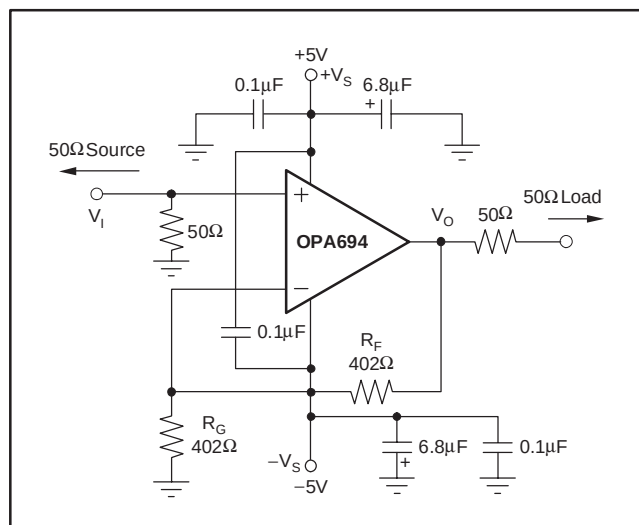
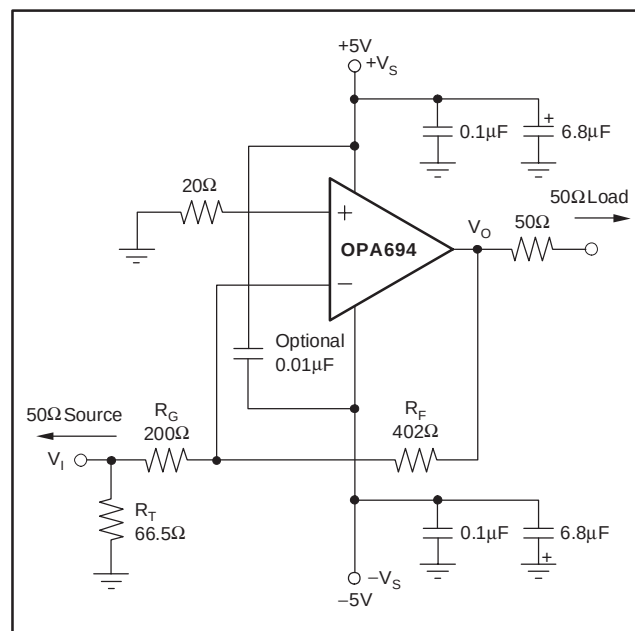
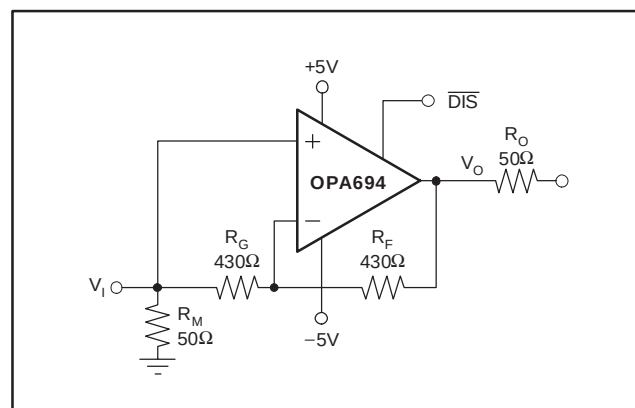
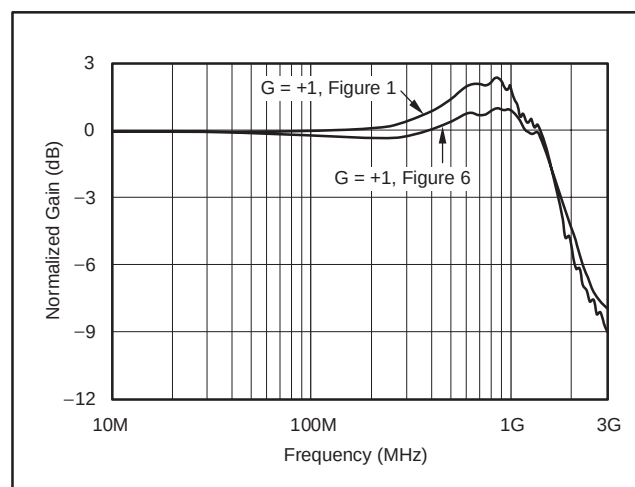

Figure 1. DC-Coupled, G = +2, Bipolar-Supply Specification and Test Circuit
Figure 2. DC-Coupled, G = -2 V/V, Bipolar-Supply Specification and Test Circuit
Figure 6. IF Amplifier Driving SAW Filter
Figure 7. IF Amplifier Driving SAW Filter
Figure 1 shows the DC-coupled, gain of +2, dual power-supply circuit configuration used as the basis of the ± 5 V Electrical Characteristic tables and Typical Characteristic curves. For test purposes, the input impedance is set to 50 Ω with a resistor to ground and the output impedance is set to 50 Ω with a series output resistor. Voltage swings reported in the Electrical Characteristics are taken directly at the input and output pins, while load powers (dBm) are defined at a matched 50 Ω load. For the circuit of Figure 1, the total effective load will be 100 Ω || 804 Ω = 89 Ω . One optional component is included in Figure 1. In addition to the usual power-supply decoupling capacitors to ground, a 0.1 μ F capacitor is included between the two power-supply pins. In practical PC board layouts, this optional added capacitor will typically improve the 2nd-harmonic distortion performance by 3dB to 6dB.
Figure 2 shows the DC-coupled, gain of -2 V/V, dual power-supply circuit used as the basis of the inverting Typical Characteristic curves. Inverting operation offers several performance benefits. Since there is no common-mode signal across the input stage, the slew rate for inverting operation is higher and the distortion performance is slightly improved. An additional input resistor, R_T , is included in Figure 2 to set the input impedance equal to 50 Ω . The parallel combination of R_T and R_G sets the input impedance. Both the noninverting and inverting applications of Figure 1 and Figure 2 will benefit from optimizing the feedback resistor (R_F) value for bandwidth (see the discussion in *Setting Resistor Values to Optimize Bandwidth*). The typical design sequence is to select the R_F value for best bandwidth, set R_G for the gain, then set R_T for the desired input impedance. As the gain increases for the inverting configuration, a point will be reached where R_G will equal 50 Ω , where R_T is removed and the input match is set by R_G only. With R_G fixed to achieve an input match to 50 Ω , R_F is simply increased, to increase gain. This will, however, quickly reduce the achievable bandwidth, as shown by the inverting gain of -10 frequency response in the Typical Characteristic curves. For gains > 10V/V (14dB at the matched load), noninverting operation is recommended to maintain broader bandwidth.
The unity gain buffer configuration of Figure 1 shows a peaking in the frequency response exceeding 2dB. This gives the slight amount of overshoot and ringing apparent in the gain of $+1V/V$ pulse response curves. A similar circuit that holds a flatter frequency response, giving improved pulse fidelity, is shown in Figure 6.
This circuit removes the peaking by bootstrapping out any parasitic effects on R_G . The input impedance is still set by R_M as the apparent impedance looking into R_G is very high. R_M may be increased to show a higher input impedance, but larger values will start to impact DC output offset voltage. This circuit creates an additional input offset voltage as the difference in the two input bias currents times the impedance to ground at V_I . Figure 7 shows a comparison of small-signal frequency response for the unity gain buffer of Figure 1 compared to the improved approach shown in Figure 6. Either approach gives a low-power unity-gain buffer with $> 1.56\text{GHz}$ bandwidth.
The OPA694 provides good distortion performance into a 100Ω load on $\pm 5\text{V}$ supplies. Generally, until the fundamental signal reaches very high frequency or power levels, the 2nd-harmonic will dominate the distortion with a negligible 3rd-harmonic component. Focusing then on the 2nd-harmonic, increasing the load impedance improves distortion directly. Remember that the total load includes the feedback network—in the noninverting configuration (see Figure 1), this is the sum of $R_F + R_G$, while in the inverting configuration it is just R_F . Also, providing an additional supply decoupling capacitor ($0.1\mu\text{F}$) between the supply pins (for bipolar operation) improves the 2nd-order distortion slightly (3dB to 6dB).
Evaluating these two equations for the OPA694 circuit and component values (see Figure 1) gives a total output spot noise voltage of $11.2\text{nV}/\sqrt{\text{Hz}}$ and a total equivalent input spot noise voltage of $5.6\text{nV}/\sqrt{\text{Hz}}$. This total input-referred spot noise voltage is higher than the $2.1\text{nV}/\sqrt{\text{Hz}}$ specification for the op amp voltage noise alone. This reflects the noise added to the output by the inverting current noise times the feedback resistor. If the feedback resistor is reduced in high-gain configurations (as suggested previously), the total input-referred voltage noise given by Equation (5) will approach just the $2.1\text{nV}/\sqrt{\text{Hz}}$ of the op amp itself. For example, going to a gain of +10 using $R_F = 178\Omega$ will give a total input-referred noise of $2.36\text{nV}/\sqrt{\text{Hz}}$.
A current-feedback op amp like the OPA694 provides exceptional bandwidth in high gains, giving fast pulse settling, but only moderate DC accuracy. The Electrical Characteristics show an input offset voltage comparable to high-speed, voltage-feedback amplifiers. However, the two input bias currents are somewhat higher and are unmatched. Whereas bias current cancellation techniques are very effective with most voltage-feedback op amps, they do not generally reduce the output DC offset for wideband, current-feedback op amps. Since the two input bias currents are unrelated in both magnitude and polarity, matching the source impedance looking out of each input to reduce their error contribution to the output is ineffective. Evaluating the configuration of Figure 1, using worst-case $+25^\circ\text{C}$ input offset voltage and the two input bias currents, gives a worst-case output offset range equal to:
As a worst-case example, compute the maximum T_J using an OPA694IDBV (SOT23-5 package) in the circuit of Figure 1 operating at the maximum specified ambient temperature of +85°C and driving a grounded 20Ω load to +2.5V DC: